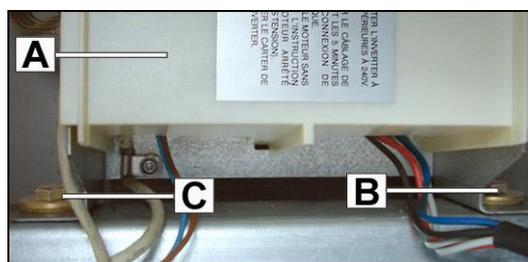

Fig. 3.2
2. Remove the protection cover **A** from the inverter. Loosen **B** and **C** screws of the inverter box (Fig. 3.2).